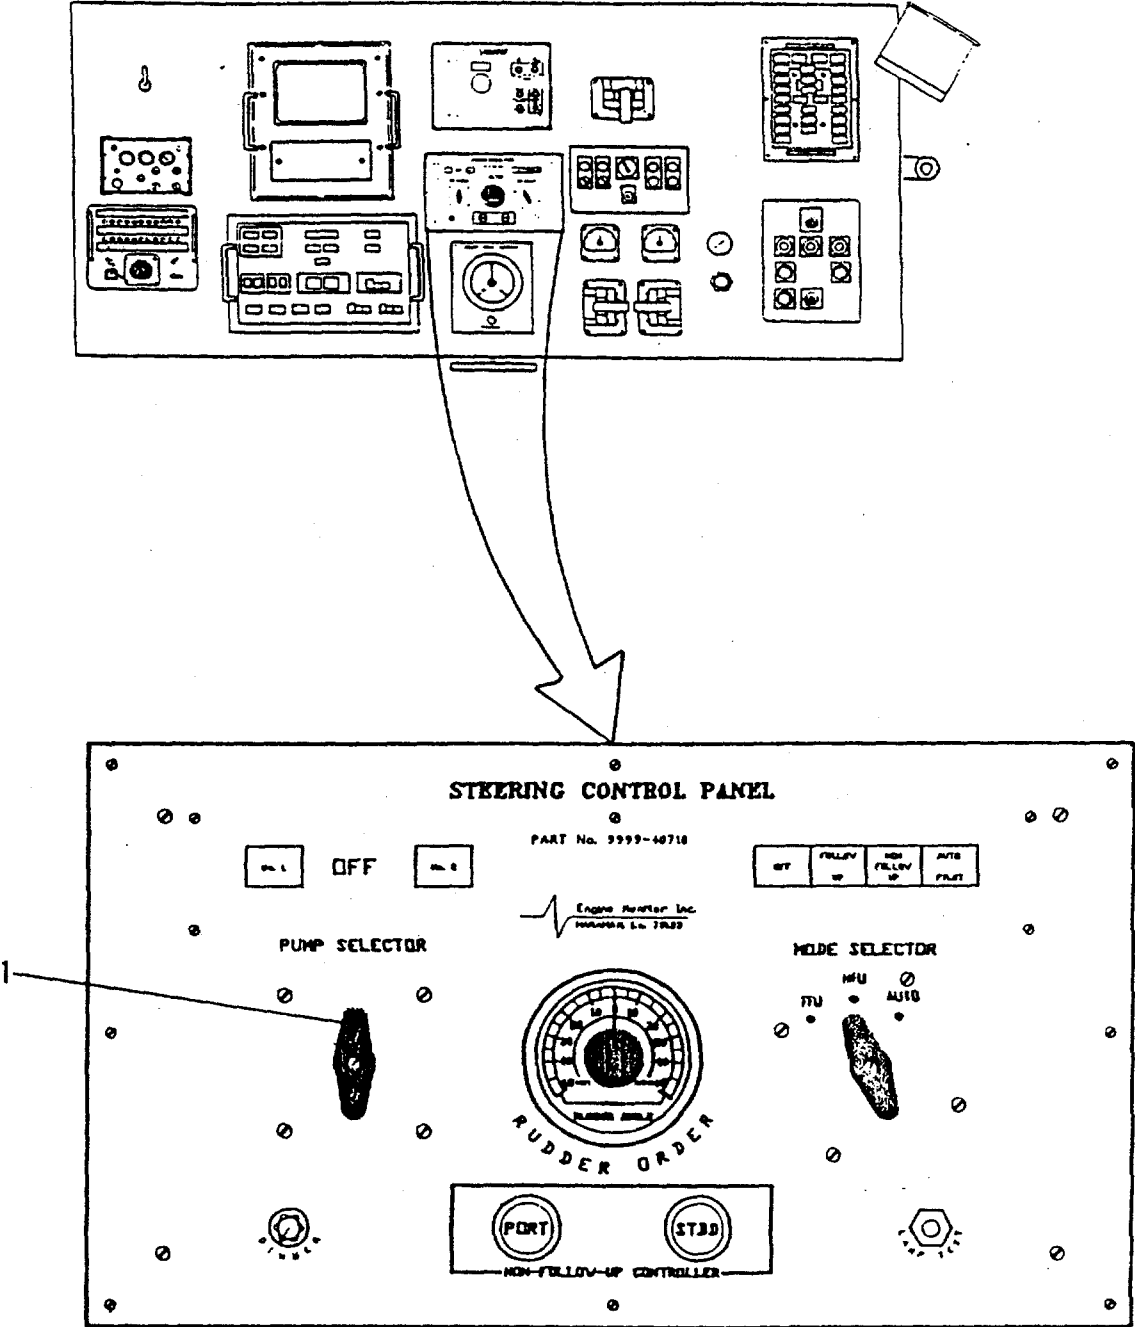

FIGURE 2-248.1. Steering Control Panel
- (2) Position SELECTOR (4) switch to MANUAL LEVEL.
- (3) Depress CAGED BUTTON (1), located on top of binnacle, and note that CAGED lamp (9) lights.
- (4) Position TILT/AZIMUTH switch (5) in the same direction required to return compass card to the proper heading. Release the switch after the compass card begins to rotate slowly toward the desired heading.
- (5) Allow compass card to rotate 2 or 3 degrees past the required heading, then depress CAGED BUTTON (1) on top of the binnacle. Note that the CAGED lamp (9) extinguishes.
- (6) Position the SELECTOR switch (4) to AUTO LEVEL and note that the gyro comes to an approximate level, as indicated by the LEVEL METER (2).
- (7) Position SELECTOR switch (4) to MANUAL LEVEL, then operate TILT/AZIMUTH switch (5) to obtain a zero indication on the LEVEL METER (2).
- (8) Position SELECTOR switch (4) to RUN.
- a. If operating on the #1 pump system, select #2 pump system or vice-versa on the PUMP SELECTOR SWITCH on the STEERING CONTROL PANEL (1, FIGURE 2-248.1). Steer vessel at reduced speed until repairs are completed.